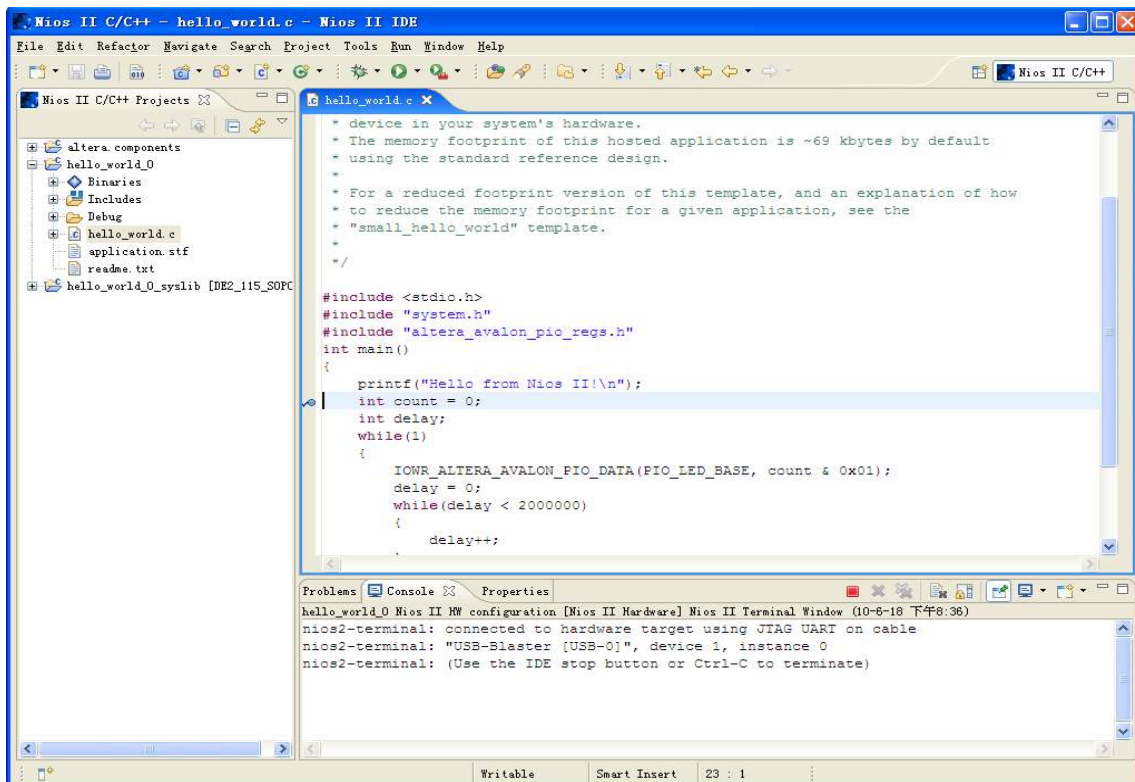

Figure 7-60 Set Breakpoint
1. In the **hello_world.c** , double-click the front of the line where you would like to set breakpoint, as shown in **Figure 7-60**.